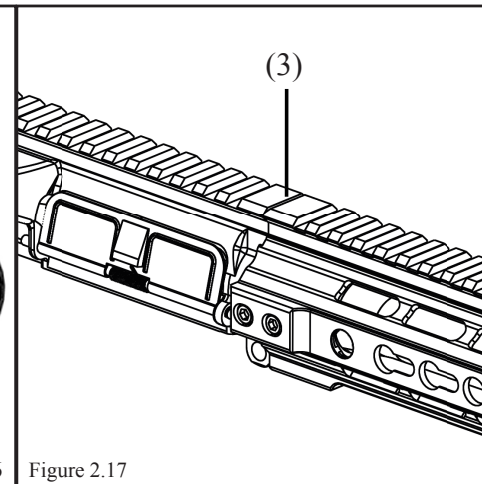

Figure 2.17
1. Misalignment of handguard (Fig. 2.17, 3)	Contact PWS Customer Service or replace barrel